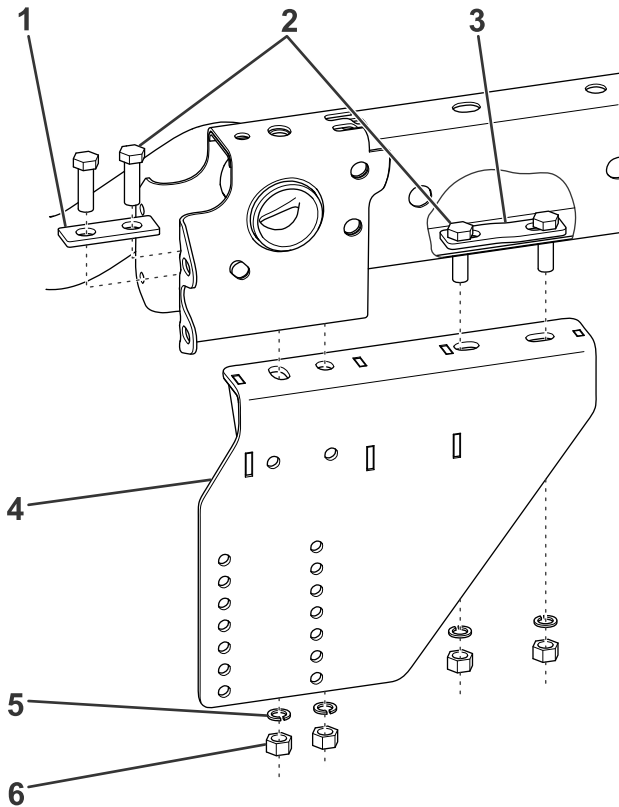

**Figure 2**
3. Using the sideplate as a guide, mark the position of the inner holes and drill them in the frame (Figure 2).